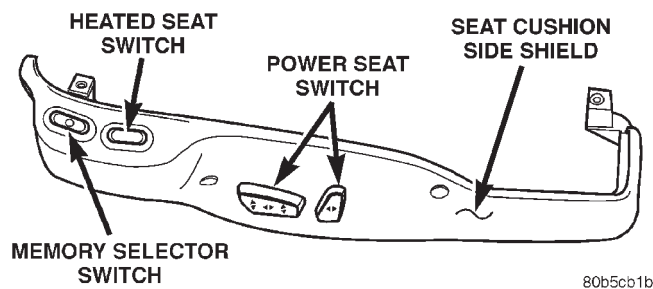

Fig. 6 Heated Seat Switch / Seat Cushion Side Shield Removal
(2) Unscrew the side shield on the seat, either driver or passenger side (Fig. 6).
(3) From the bottom, disengage the switch and gently rock through the opening.